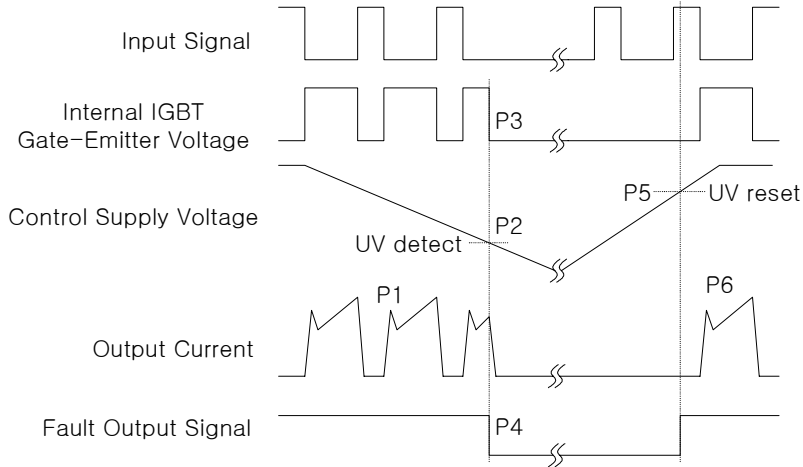

**Fig. 9. Mounting Screws Torque Order**
8. Avoid one side tightening stress. Fig.9 shows the recommended torque order for mounting screws. Uneven mounting can cause the SPM ceramic substrate to be damaged.